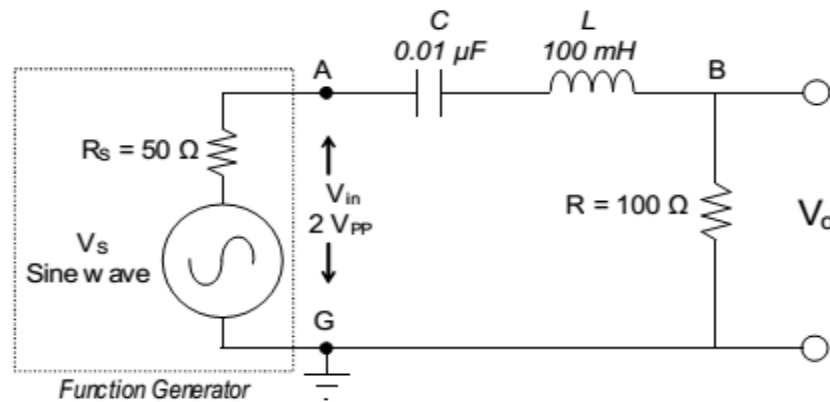

Figure 3
8. Set up the series RLC circuit shown in Figure 3, using the function generator to provide the sinusoidal input voltage.